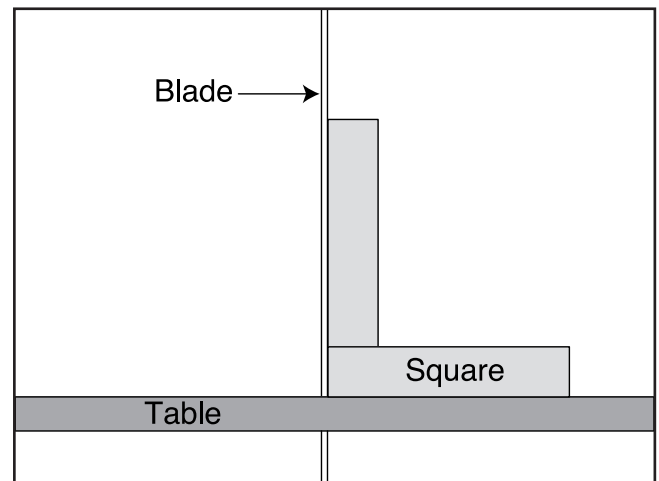

Figure 50. Checking table alignment with the blade.
4. Use a square to check table alignment with the side and the back of the blade, as shown in Figure 50.